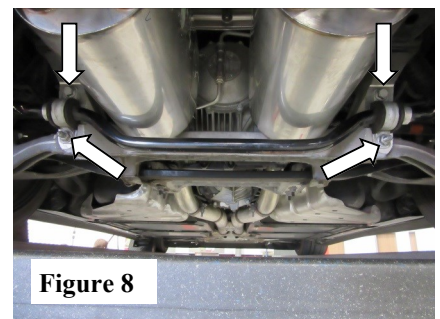

Figure 8
7. Swing the anti-sway bar back into position re-install the original hardware previously removed. Torque the upper bolts to 45-49ft. Lbs. and the lower nuts to 65-70 ft. lbs. (See Fig. 8)